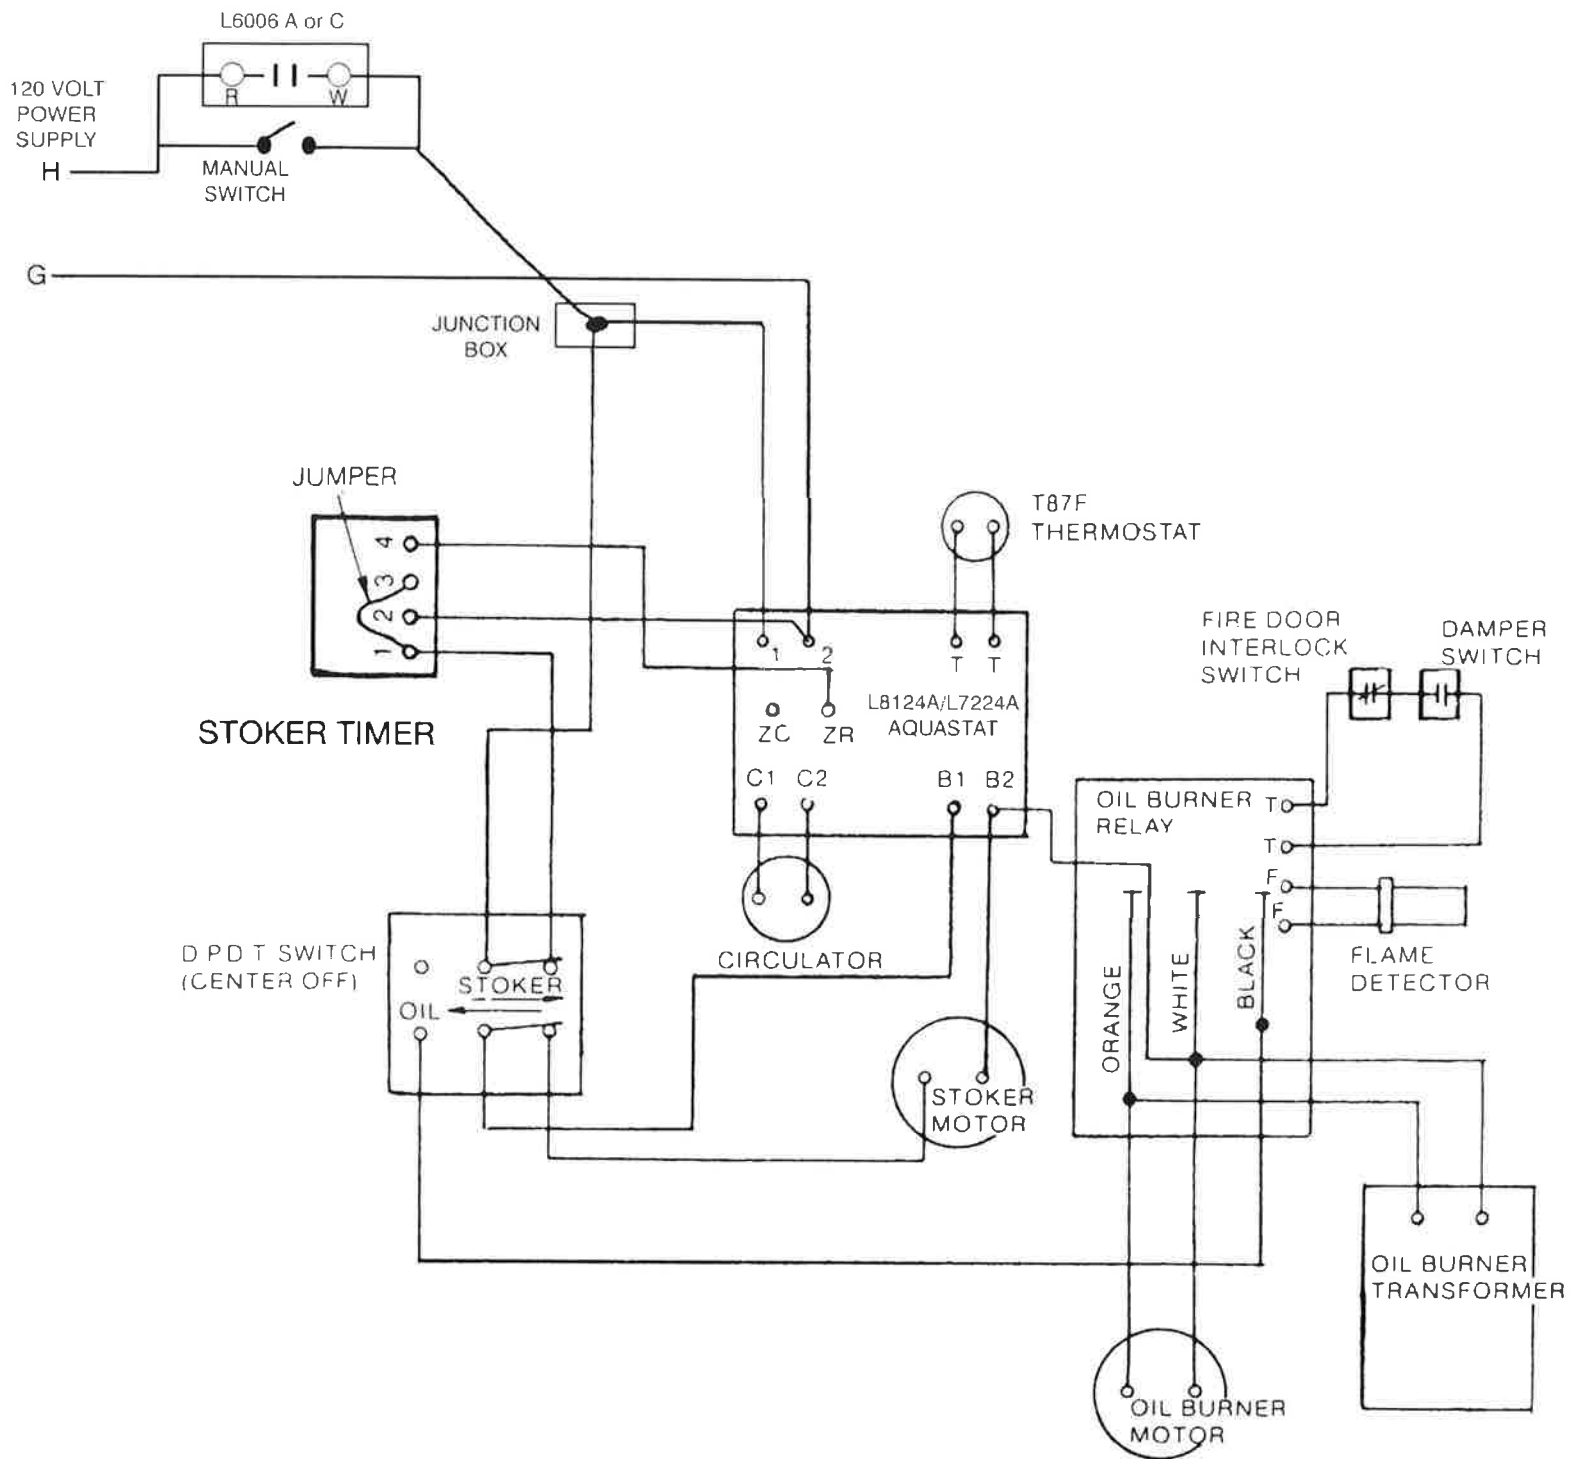

FIGURE 9
2. Refer to the appropriate wiring diagram, Fig. 9, 9B or 6, when wiring the installation. These two wiring diagrams supercede the wiring diagrams furnished with older stoker installation instructions when the oil burner is used. The newest stoker installation manual also contains current wiring diagrams for the oil burner optional kits. Wiring diagrams or a stoker installation manual can be seen online at www.efmheating.com.